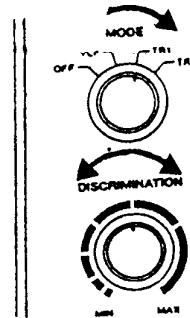

Figure 13
2. Hold the detector comfortably, then as shown in Figure 13, rotate **MODE** to the desired position.